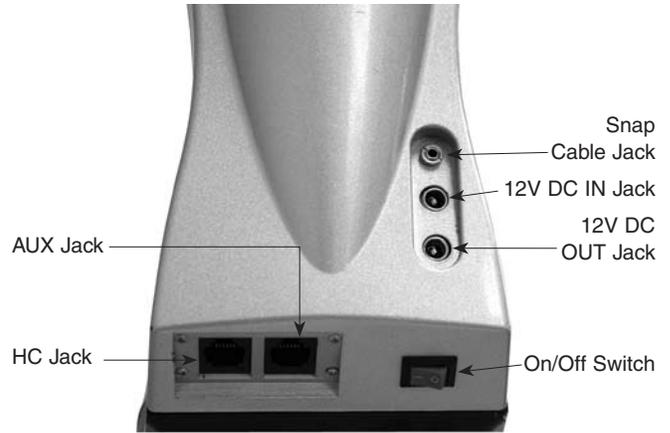

Figure 4. The TeleTrack Mount Control Panel
6. The TeleTrack's hand controller has a modular plug at the end of its cord. To attach the hand controller to the TeleTrack, plug the connector into the "HC" jack at the base of the mount's fork arm (see Figure 4). Push the plug into the jack until it clicks into place. Make sure not to confuse the "HC" jack with the "AUX" jack. The "AUX" jack is not used for normal operation of the mount.